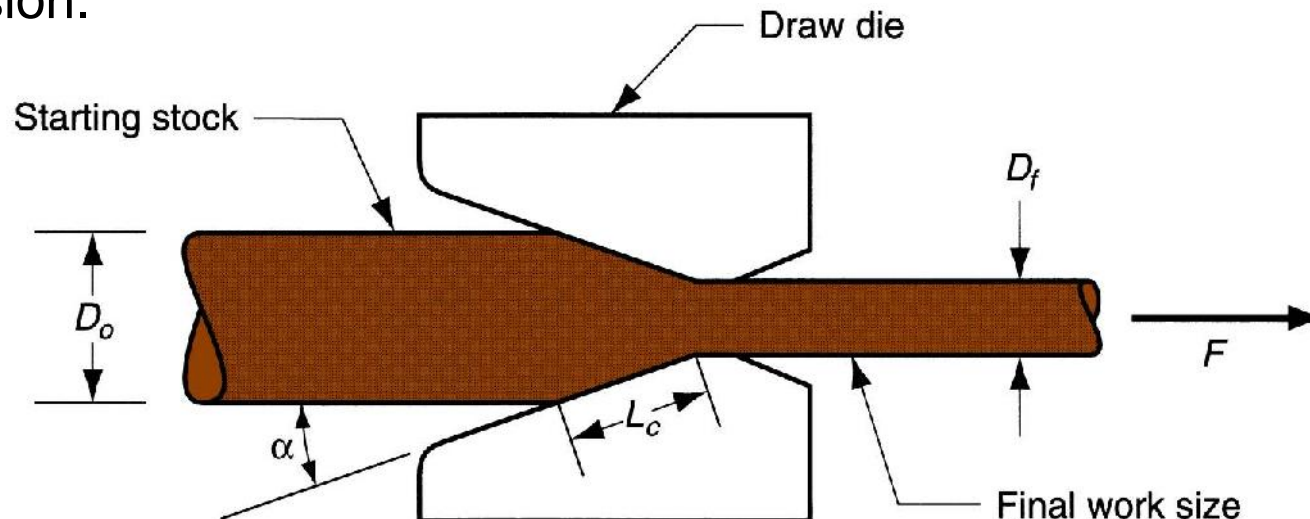

Figure 19.27 Drawing of bar, rod, or wire.
- **Mechanics of Drawing:** assuming friction, consider Figure 19.27 .